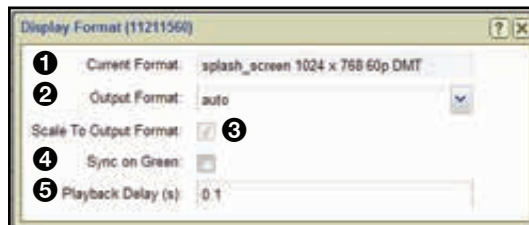
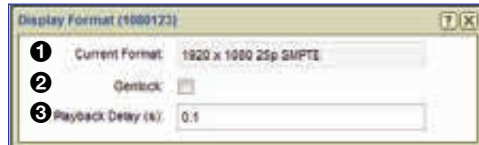

Figure 36. VN-Matrix 200/225 Display Format Dialog Box
Figure 37. VN-Matrix 3xx Series Display Format Dialog Box
When a decoder device is selected, click the **Format** button (see figure 29 on page 38) to open the **Display Format** dialog box used to configure the output format of a decoder (see figure 36). The menu differs slightly depending on the selected VN-Matrix device.
- ④ **Sync on Green (SoG) (VN-Matrix 200/225 only)** — Select (check) this check box (see figure 36 on the previous page) to enable Sync on Green on the output analog waveform. When SoG is enabled, separate horizontal and vertical syncs are present on the analog output.
The VN-Matrix 3xx series display format dialog box (see figure 37) shares two configuration options with the VN-Matrix 201/225 (see figure 36).